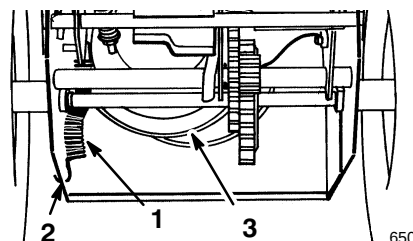

Figure 20
7. Disconnect the spring from the notch in the bottom edge of the side plate (Fig. 20).
14. Hook the spring into the notch in the bottom edge of the side plate (Fig. 20).